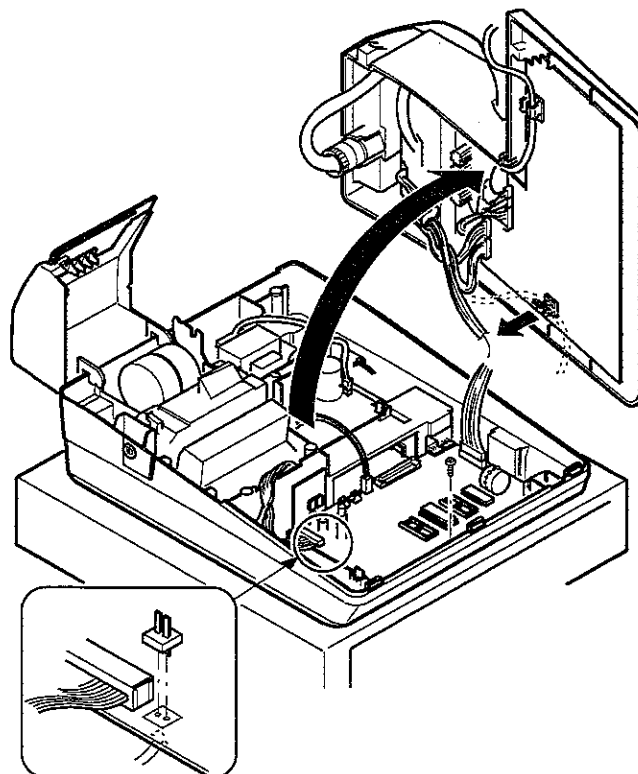

Fig. 1
- 4) Installing parts on main PWB (Fig. 1)
Install and solder the 2-pin connector on the main PWB (Fig. 1)